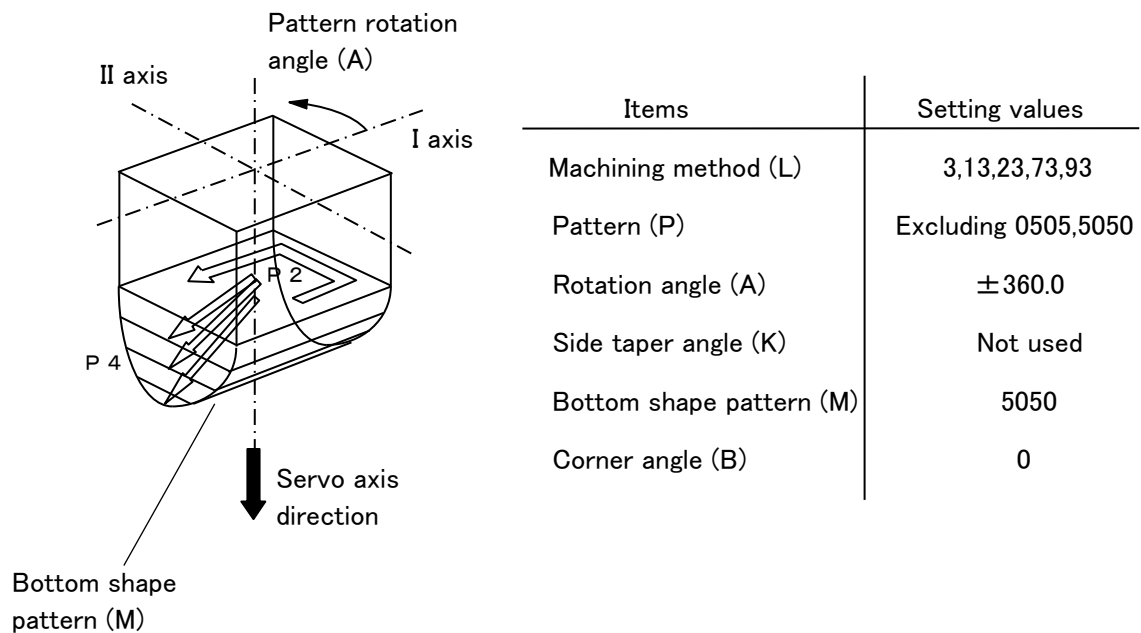

Fig. 17.4 Column-shape machining
- (a) The figure 17.4 shows an example when the pattern (P) is 2222.